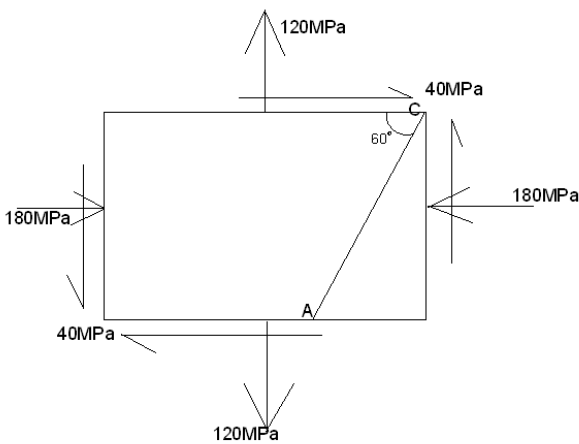

fig 4.5
5. The state of stress in two dimensionally stressed body is as shown in fig4.5. Find magnitude and direction of principal stresses and maximum shear stress. Also determine the normal and tangential stresses on the plane AC. Verify results using Mohr's Circle.